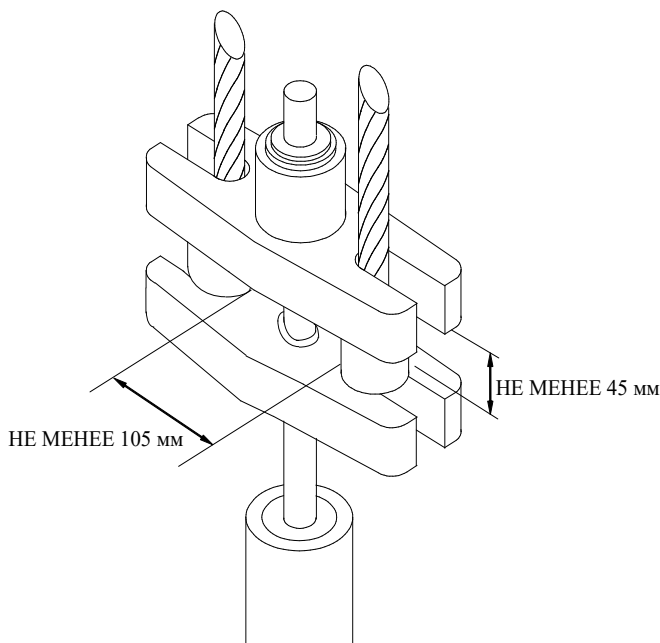

Figure 1. Carrier bar of wellhead polished rod
- The connection between the rod and the sucker rod pumping unit should be made by polished rod carrier bar of a PCSH-type wellhead rod. When using a DN-10 load cell, the limits of the suspension configuration are shown in Figure 1.